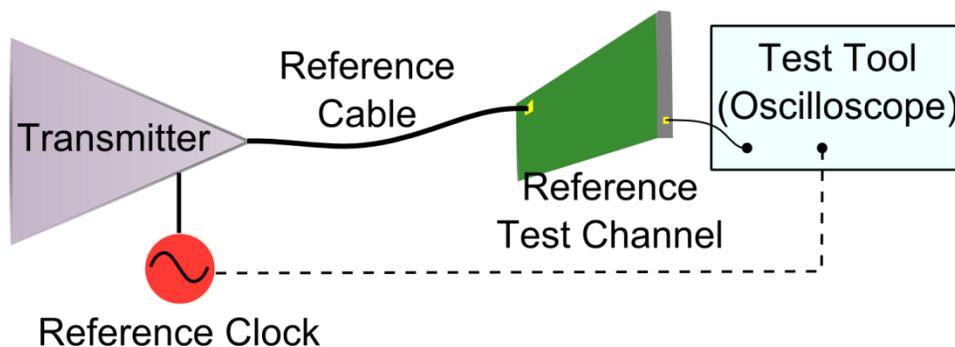

Figure 3. Typical transmitter test setup.
Figure 3 shows a typical transmitter test configuration; this example is from the USB3 specification [1]. Compliance test specifications set maximum allowed levels of Random Jitter (RJ), Deterministic Jitter (DJ) and Total Jitter (TJ) defined at a Bit Error Ratio (BER). The BER requirement is usually $BER < 10^{-12}$. Values of RJ, DJ, and TJ are all calculated *after* receiver equalization.